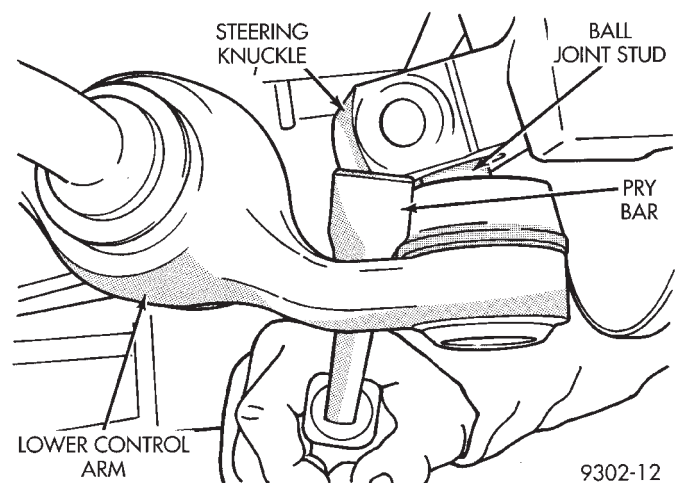

Fig. 45 Separating Ball Joint From Steering Knuckle
(4) Carefully insert a pry bar between lower control arm and steering knuckle (Fig. 45), to separate ball joint stud from steering knuckle. **Use caution when separating ball joint stud from steering knuckle so ball joint seal does not get cut.**